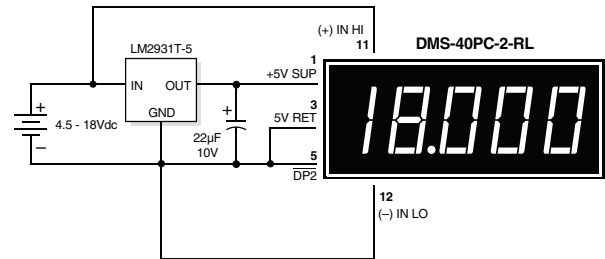

**Figure 3. Differential Input Configuration**
**2. Differential Input Configurations:** Differential inputs can also be measured with DMS-40PC meters as shown in the circuit of Figure 3. Differential inputs must also originate from power supplies that have a common ground with the meter's 5V RETURN (pin 3). However, differential inputs usually have both terminals above and/or below 5V RETURN. Figure 3, though not necessarily a typical real-world application, does serve the purpose of illustrating the concept of a differential signal.